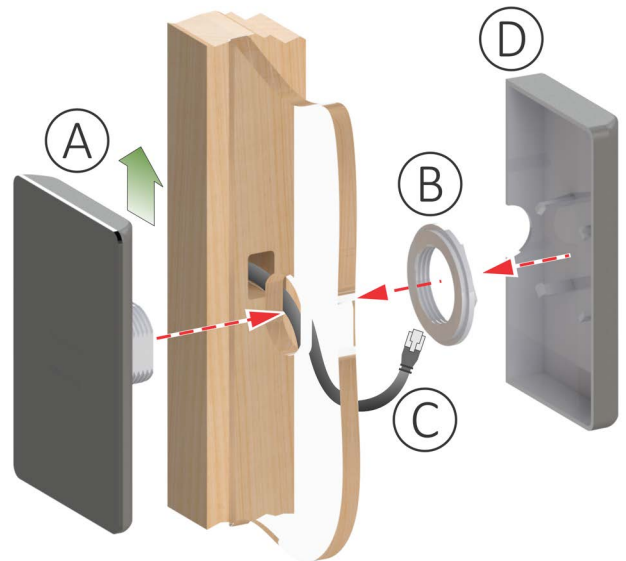

Figure 30. Installing the Control
1. Locate the keyed circular hole in the front glass for mounting the control. The control will mount on the exterior of the glass. See Figure 30. for the remaining steps.
2. Orient the UP arrow on the back of the control (A) and insert the threaded tube through the keyed circular hole in the glass.
3. Attach the control to the glass from the interior using the threaded retaining ring (B).
4. Connect the RJ11 control cable (C) to the female RJ11 jack located inside the threaded tube of the control.
5. Neaten up the control cable, then attach the back cover (D) over the threaded retaining ring (B).